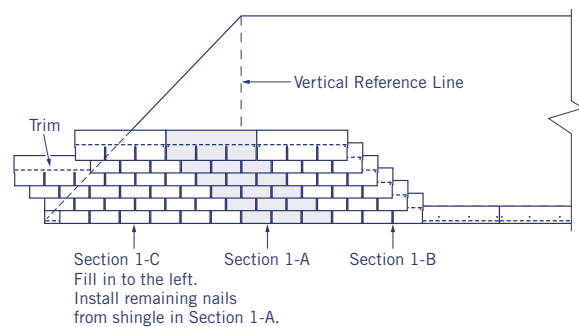

Figure 9-4: Filling in the area to the left of the vertical reference line
- Before continuing up the roof section, apply one shingle immediately to the right of each shingle of the completed first section (see Figure 9-4, Section 1B).
- Before beginning each diagonal section, apply one shingle immediately to the right of each shingle of all courses already installed on the roof (as in Figure 9-4, Section 1-B).